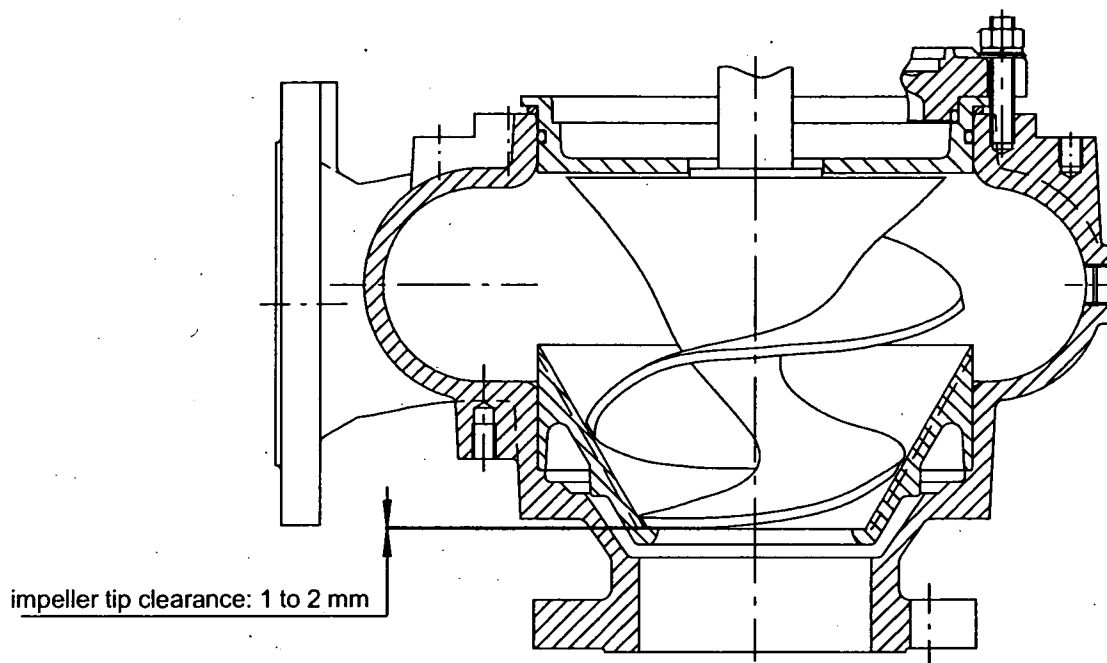

Fig. 9
If the tip of the impeller touches the wear ring (408) or the lip in the liner (or suction cover) or if there is less than 1 mm clearance between the tip and the lip (the spiral edge of the impeller is firmly seated against the conical taper inside the liner or suction cover), then the impeller tip must be ground off, parallel to the suction flange, until 1 to 2 mm clearance is obtained (Fig. 9).